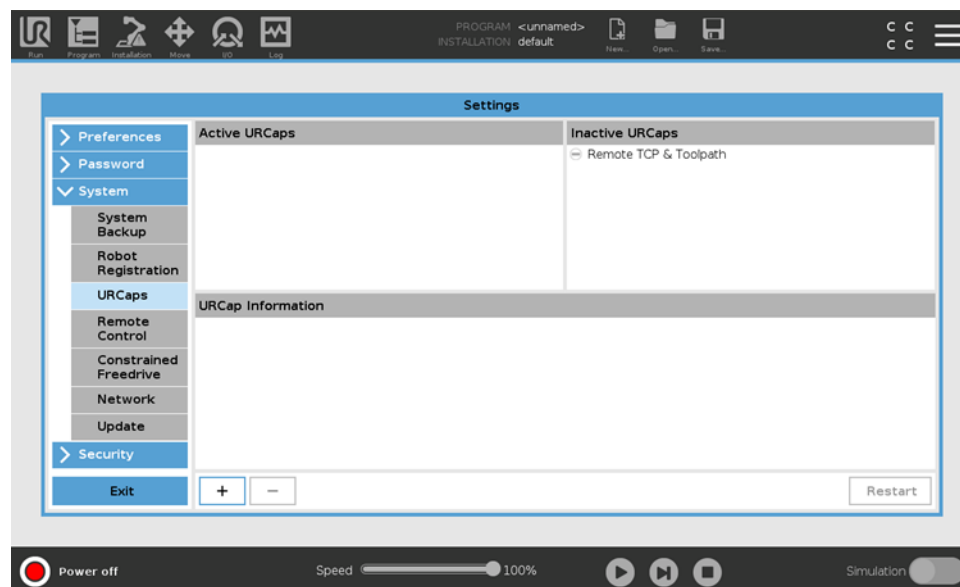

Figure 2: Use the '+' button at the bottom left to install the URCap
5. Click the '+' button shown in Figure 2, navigate to the USB disk, and add the corresponding URCap (example: pneumagiQ-X.XX.urcap).